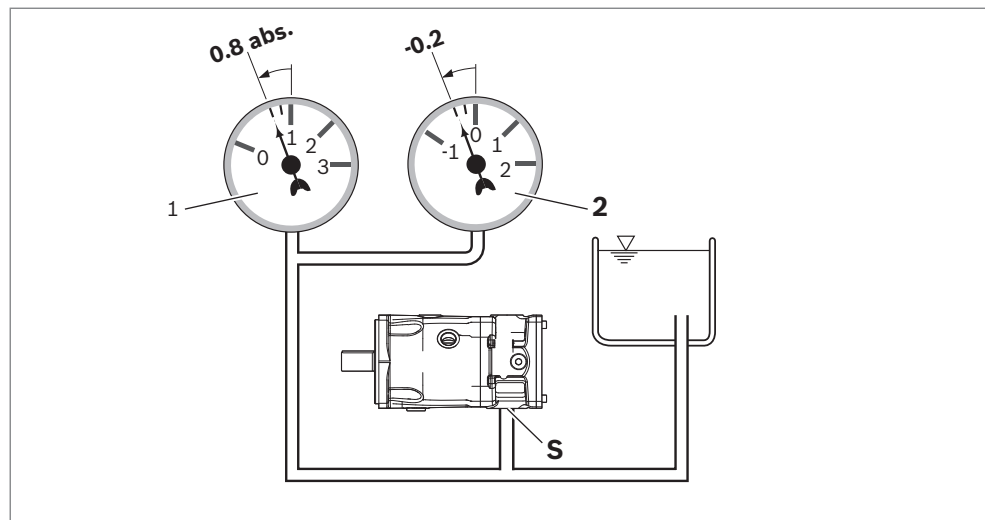

Abb. 12: Suction pressure example A10VZO
- ▶ Make sure that a minimum suction pressure of 0.8 bar absolute is present at port **S (A or B)** during operation for all installation positions and installation locations of the axial piston unit; see Abb. 12. See data sheet for other pressure values.